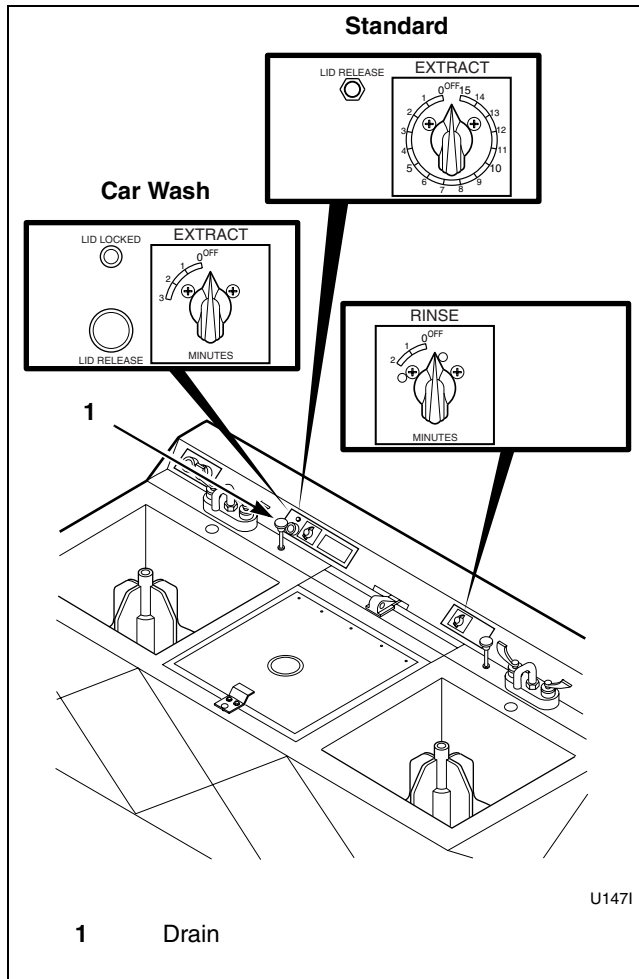

Figure 12
10. Set extract timer then rinse timer to desired cycle times. Refer to *Figure 12*. Refer to *Table 4* for recommended rinse and extract times.
11. When cycle is complete, wait until basket stops, then press LID RELEASE button to open lid. Refer to *Figure 12*.